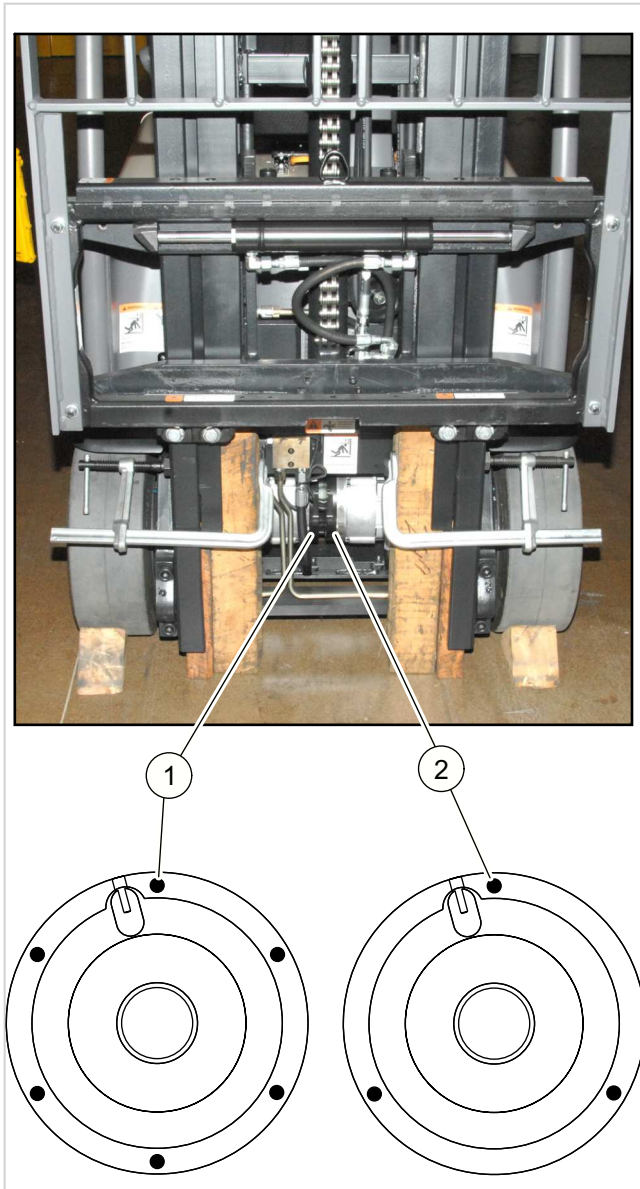

Fig. 2 (29865)
1. See Figure 2. Install the three springs on the left brake.